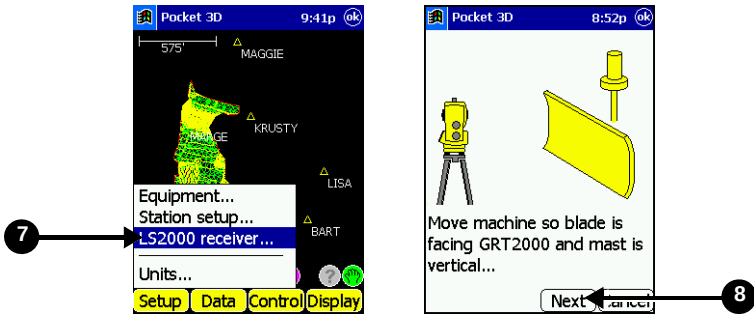

Figure 8-8. Setup->LS-2000 and Position Machine Blade
7. Press **Setup ▶ LS-2000 receiver** to begin the receiver setup, and press **Next** when the machine is ready (step 6 is complete) (Figure 8-8).